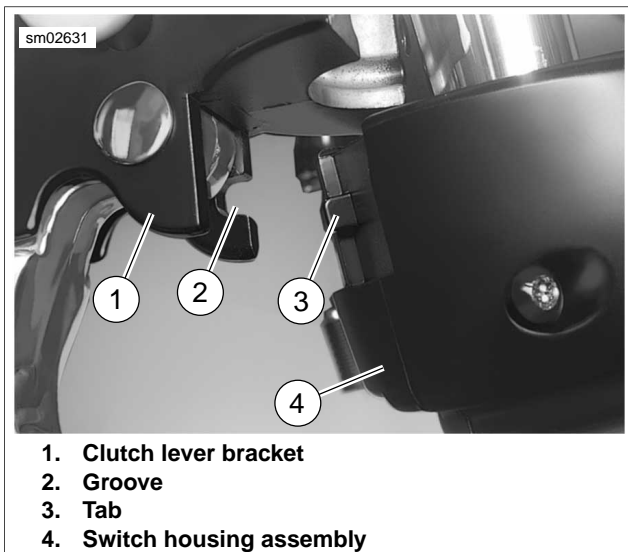

Figure 8-91. Clutch Lever Bracket
5. See Figure 8-91. Position the clutch hand lever assembly inboard of the switch housing assembly, engaging the tab (3) on the lower switch housing in the groove (2) at the bottom of the clutch lever bracket.